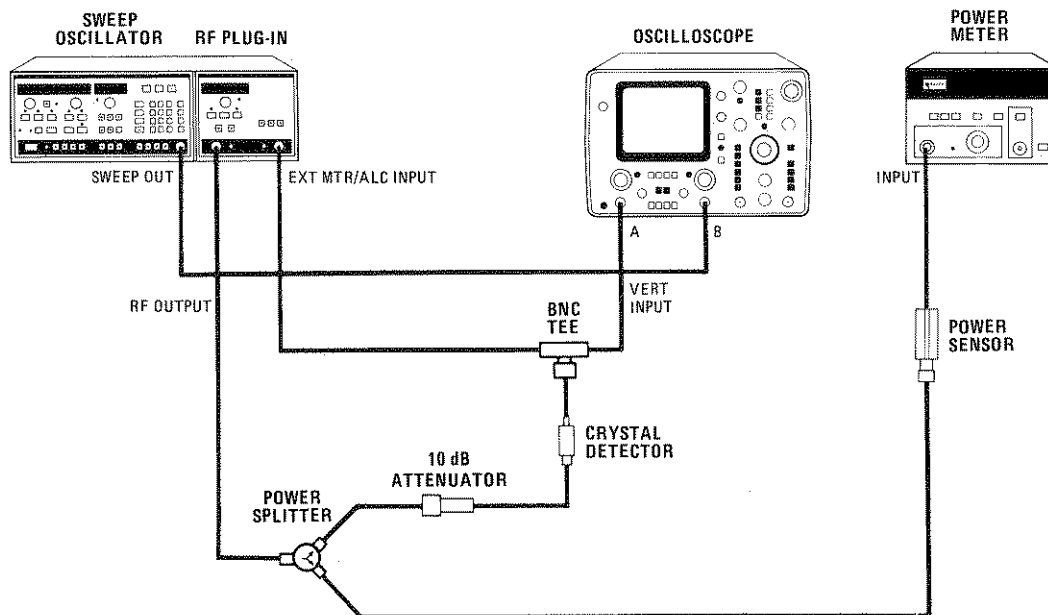

Figure 4-4. Crystal Detector Leveling Test Setup (Using HP 436A Power Meter)
22. Connect equipment as shown in Figure 4-4. Press 8350A **INSTR PRESET** and set SWEEP TIME to 100 milliseconds. Set the oscilloscope for external sweep mode (A vs B).